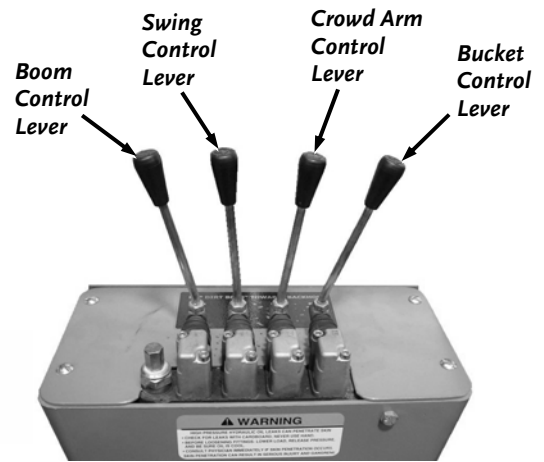
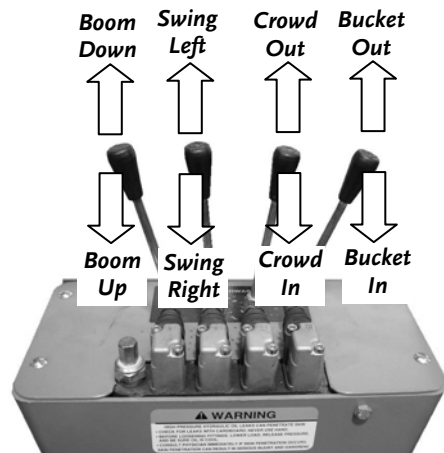

Figure 6
Figure 7
1. Familiarize yourself with all of the Control Levers (**Figure 6**) and all of their functions (**Figure 7**) before operating the Backhoe.
NOTE: Refer to Figures 6 and 7 for Control Lever functions.
It is not difficult (but it does take practice) to become an efficient operator. A control lever operating decal is located just forward of the control levers. Study this decal; it will help you become familiar with the controls. See Figures 6 and 7 for control locations and functions.